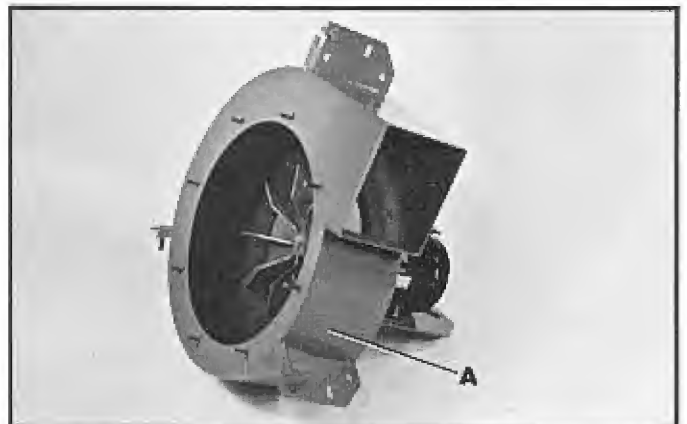

Fig. 2
Remove the dust collector components from the shipping containers. Check parts list for missing or damaged parts. Set the blower housing (A) Fig. 2 on the floor or sturdy supporting surface, as shown.